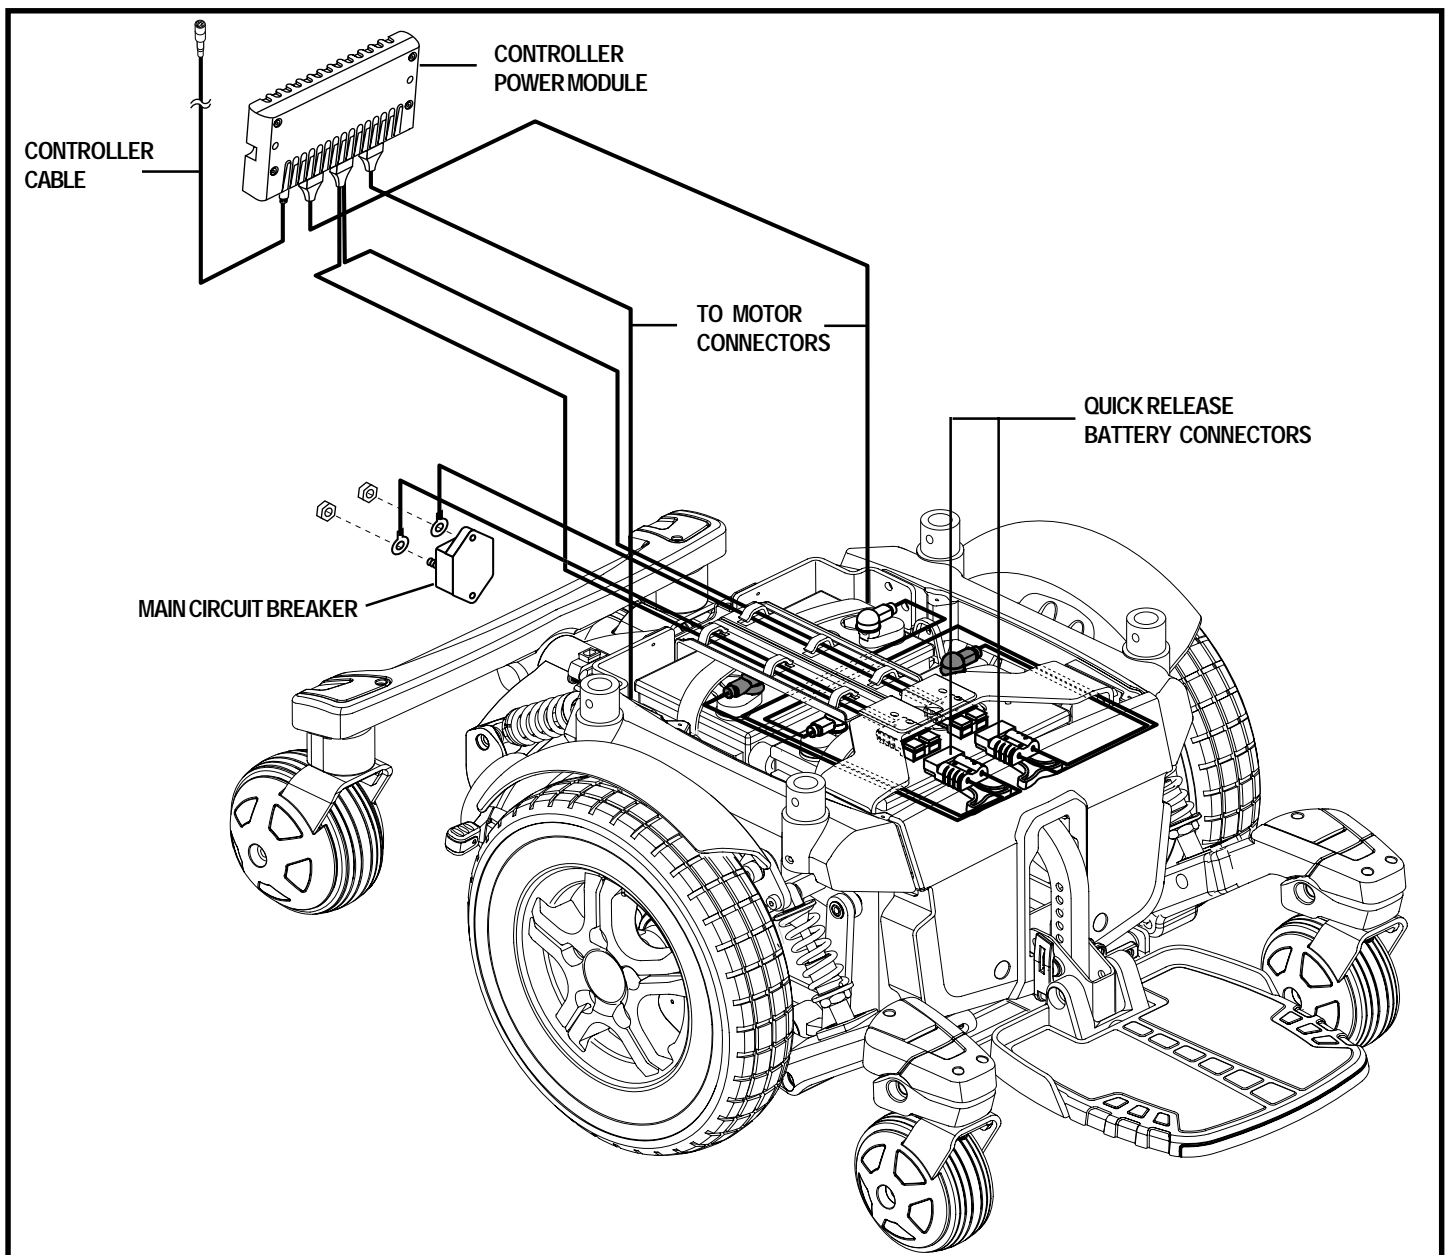

Figure 7. Quantum 6000 Electrical Components
The electrical components consist of the controller assembly, the batteries, and the motors. The batteries, motors, and controller power module (if equipped) are located on the power base assembly. The controller is located on the seat assembly. Connectivity between the controller and the motors, batteries, and the battery charger is provided by one or more wiring harnesses. See figure 7.
6. Plug the controller connector into the power base. See figure 7.
4. Disconnect the controller connector(s) from the power base. See figure 7.